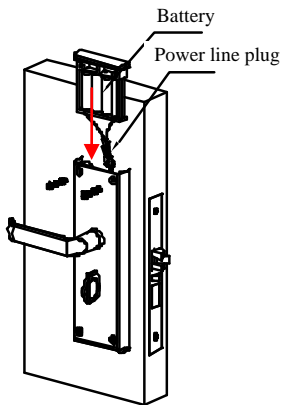

Figure 16
16) Install batteries into battery box, combine wire's plug and battery box together, then, put the battery box into the lock body. Show as Figure 16.